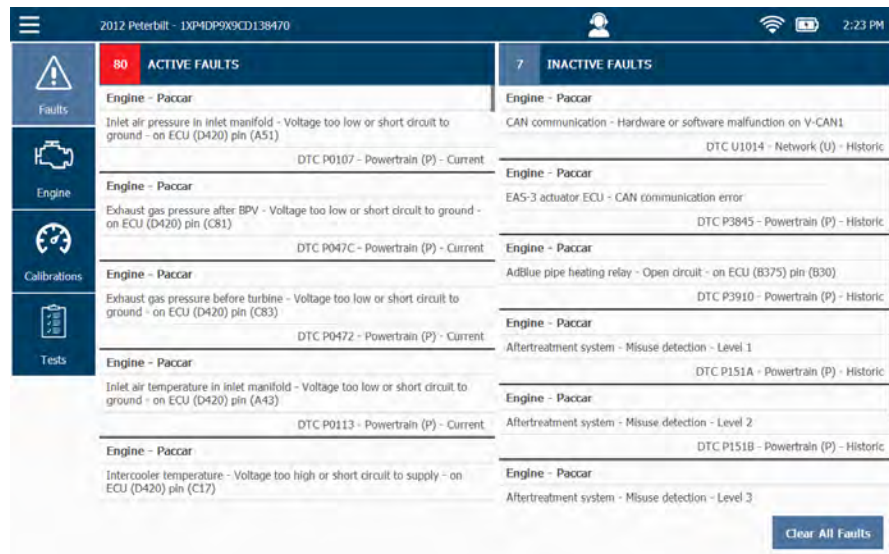

Figure 4.2 *Faults Screen*
- 5 Touch the **Back Arrow** tab to go back to the list of faults (Figure 4.2).